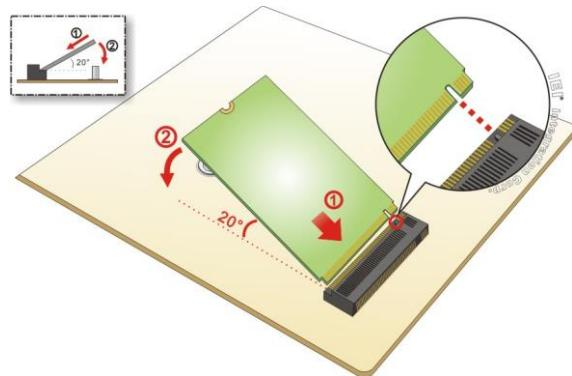

Figure 4-1: Inserting the M.2 Module into the Slot at an Angle
Step 3: Line up the notch on the module with the notch on the slot. Slide the M.2 module into the socket at an angle of about 20° (Figure 4-1).